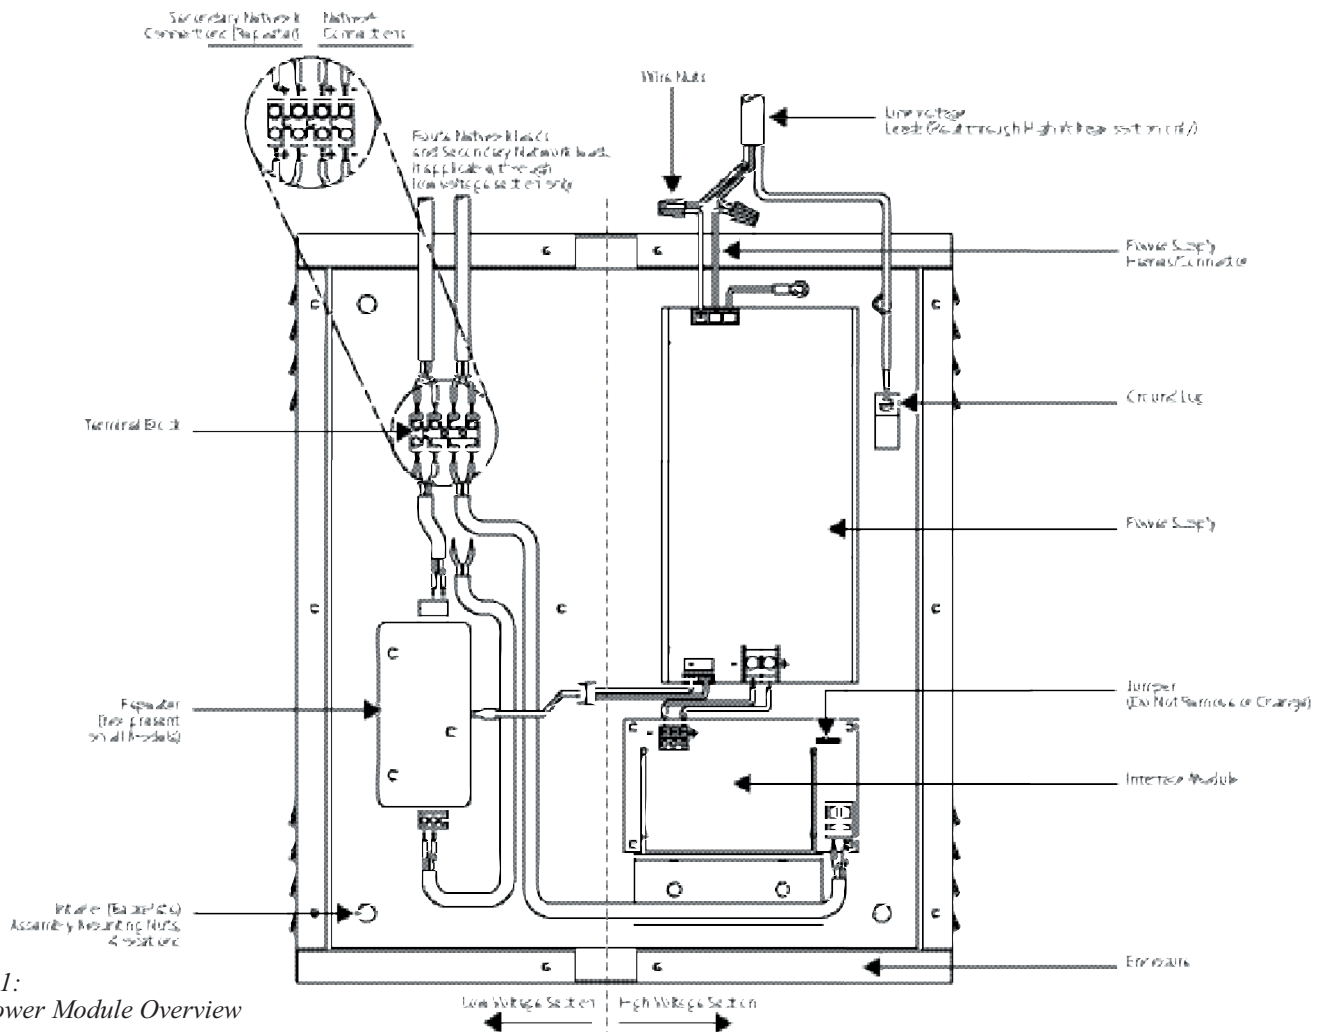

Figure 1:
Remove the Link Power Module's two cover plates by removing the cover plate screws. Remove the Link Power Module's interior assembly by removing its four mounting bolts as shown in Figure 1 and lifting the interior assembly out of the enclosure. Store interior assembly in a clean, secure location away from the installation location until ready to reinstall.
The Link Power Module interior is divided into high voltage and low voltage sections as shown in Figure 1.
Insert the interior assembly into enclosure and install on mounting bolts. Secure with mounting bolts as shown in Figure 1.
Attach the power supply cable harness to the power supply leads with wire nuts as shown in Figure 1. Connect the power supply ground to the ground lug as shown in Figure 1 and tightening ground lug screw. Check that power supply cable harness is securely attached to the power supply board as shown in Figure 1.
Route communication network cables to the appropriate contacts on terminal block connector as shown in Figure 1 and secure by tightening terminal block screws. If using a repeater in conjunction with a multiple network system, connect the leads from the other network segment to the appropriate contacts on the terminal block connector as shown in Figure 1 and secure by tightening the terminal block screws.
Apply power to the Link Power Module and verify that both the power supply and network status indicator lights turn on (see Figure 1).
3. Verify that the power supply cable harness is properly attached to the power supply as shown in Figure 1.
4. Verify that the power supply cable harness ground is properly terminated to the Link Power Module's back plate as shown in Figure 1.